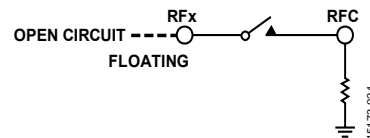
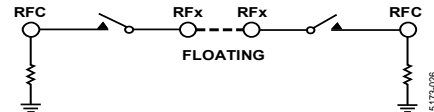
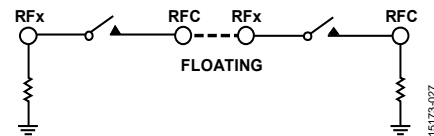

Figure 53. RFx Pins Left Open Circuit
Figure 55. RFx Pins of Two MEMS Switches Directly Connected
Figure 56. RFC Connected to RFx
The ADGM1004 has no internal impedance to ground, and charges can develop on the switch terminals leading to unreliable switch behavior. To mitigate this behavior, provide a discharge path to all switch nodes. Figure 53 to Figure 56 show examples of cases to avoid where floating nodes can occur when using the switch. Conditions to avoid include the following:
- Leaving the RFx pins open circuit (see Figure 53).
- Connecting the RFx pin of two switches together directly or connecting the RFC pin to the RFx pin (see Figure 55 and Figure 56).